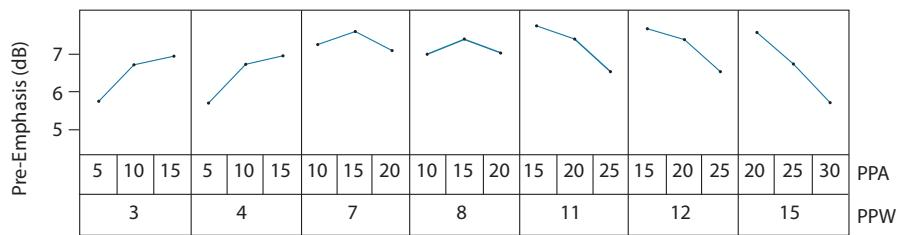
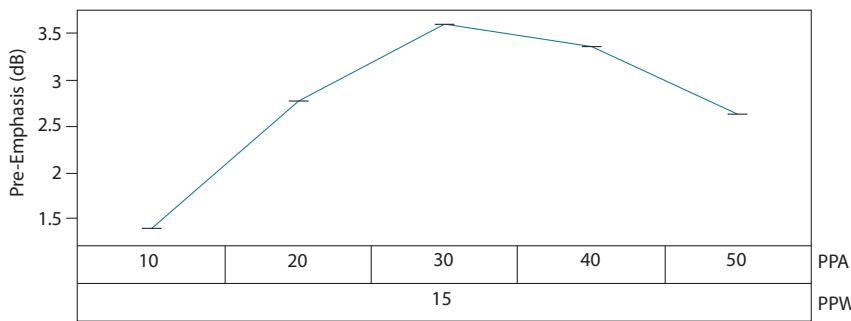

Figure 4-10: Pre-emphasis settings for $VCCO_{<n>} = 1.2V$ and $DS = 7$ (swing = 200mVpp)
Figure 4-17: Pre-emphasis settings for $VCCO_{<n>} = 2.5V$ and $DS = 35$ (swing = 800mVpp)
The only requirement of the trace driver pre-emphasis settings is to minimize ISI introduced by a lossy link and maximize the eye opening at the receiver. The Pre-emphasis compensation of the GS3241 output channel is a two-step process. The first step is to use the settings from Figure 4-10 to Figure 4-17 that best match the insertion loss of the link in the application, while the second step is a fine optimization procedure.
1. Pre-emphasis Amplitude (PPA) Optimization: Set the PPA and PPW to the values obtained from the graph selected out of Figure 4-10 to Figure 4-17, and then measure the downstream jitter. While keeping PPW constant, increment the PPA by 'a'. If the jitter is lower after the first increment, continue to increment by 'a' until the jitter begins increasing or a setting of 50 is reached. If there was a setting which resulted in a lower jitter measurement than the initial setting, that is the Optimized Pre-emphasis Amplitude setting: $PPA_{Optimal}$, and the PPA optimization procedure is complete.
If incrementing the PPA or decrementing the PPA did not result in a setting with lower jitter, then the initial setting obtained from the graph selected out of Figure 4-10 to Figure 4-17 is the PPA optimized Pre-emphasis Amplitude setting: $PPA_{Optimal}$.
2. The second step is to set the PPA to the optimized setting $PPA_{Optimal}$ determined in step 1 and PPW to the values obtained from the graph selected out of Figure 4-10 to Figure 4-17, then measure the downstream jitter. While keeping PPA constant, increment the PPW by 'w'. If the jitter is lower after the first increment, continue to increment by 'w' until the jitter begins increasing or a setting of 15 is reached. If there was a setting which resulted in a lower jitter measurement than the initial setting, that is the Optimized Pre-emphasis Width setting: $PPW_{Optimal}$, and the optimization procedure is complete.
If incrementing the PPW or decrementing the PPW did not result in a setting with lower jitter, then the initial setting value obtained from the graph selected out of Figure 4-10 to Figure 4-17 is the optimized Pre-emphasis Width setting: $PPW_{Optimal}$.